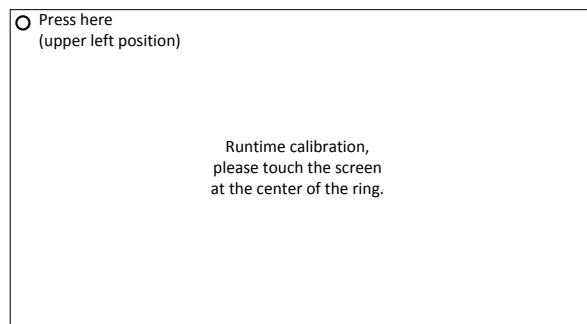

Figure B.2. Click Circle on the Top Left Corner
3. A message appears on the top left corner on the touch screen (Figure B.2). Follow the instruction, press the circle.